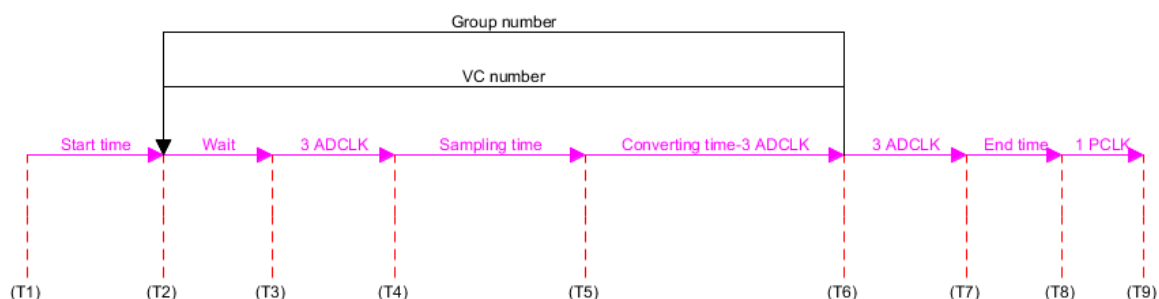

**Figure 6.6: ADOP interface output behavior of SARAD113x**
- (1) Refer to HWM[2] chapter: 1.13.1, 1.16.13
- (2) The Figure 6.6 shows the behavior of ADOP interface. When register SGTSELx is written, the corresponding ADOP\_OPAX\_WEN and ADOP\_OPAX\_PSEL will be asserted in 1 PCLK period.